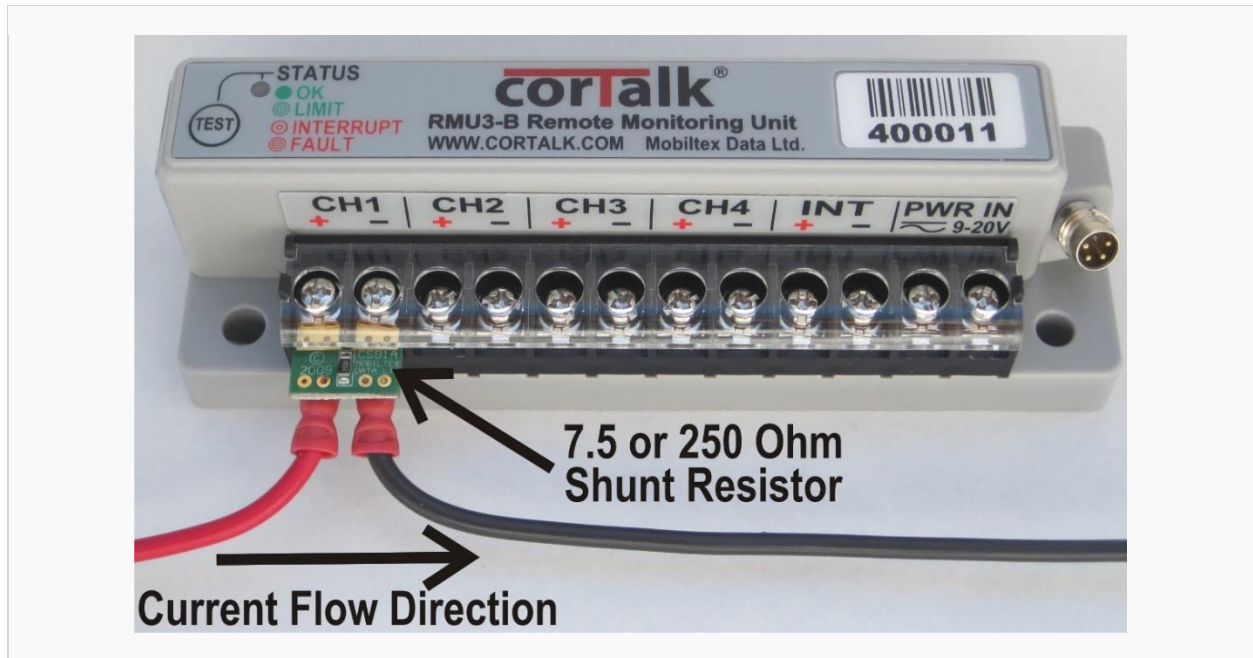

Figure 77 4-20mA Transducer Shunt Resistor Installation
- Enter the value of the resistor into the “Rext (Ohms)” field of the calculator. Attachment and current flow direction should be as shown in Figure 77.